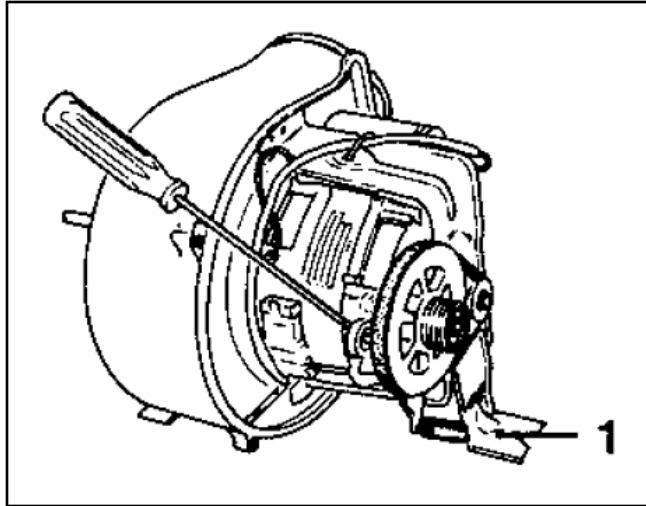

Figure 5-14: Removing the Unit
7. Pull the fan forward by about 2 cm and, by tilting it, lift the rear support bracket; refer to Figure 5-14 – Removing the Unit, Item 1, to the left over the U traverse. Remove the unit.